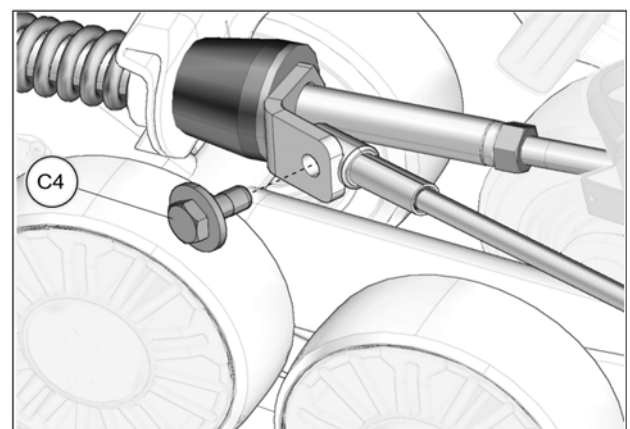

Fig. 30
21. Reverse steering wheel a little to be able to bolt support plate and cable together. Tighten provided bolt (C4) to 35 N•m [24 lb•ft]. See Fig. 30. Repeat steps on right side.